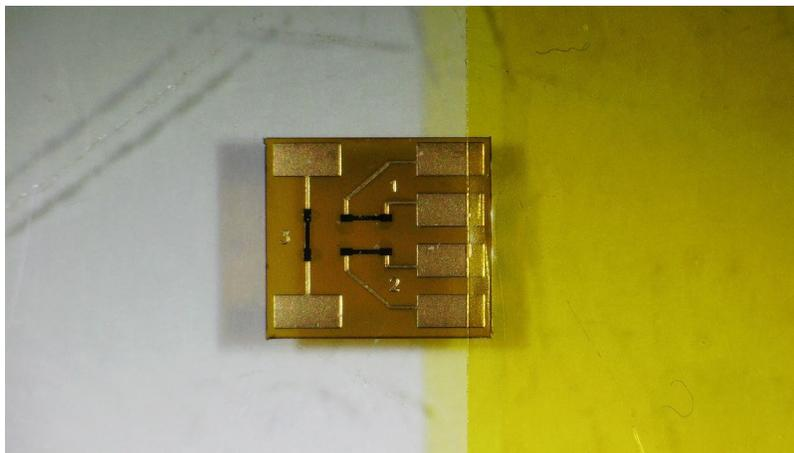

Figure B1 – Laying Kapton Tape on Rosette.
- B.6 Center and then gently lay a 50 mm (2 inch) long piece of Kapton Tape to cover only a portion of the four (4) solder tabs on the rosette. See Figure B1.